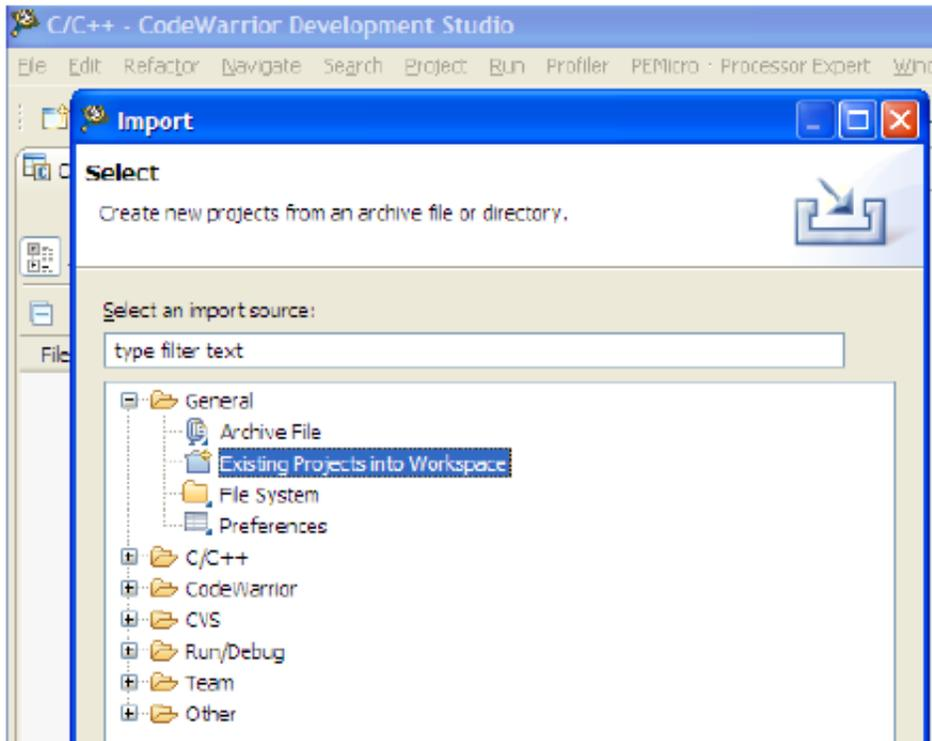

Figure 19. Opening eGUI project in Codewarrior 1
2. Open the IDE. Choose File > Import > Existing projects into workspace. See Figure 19.